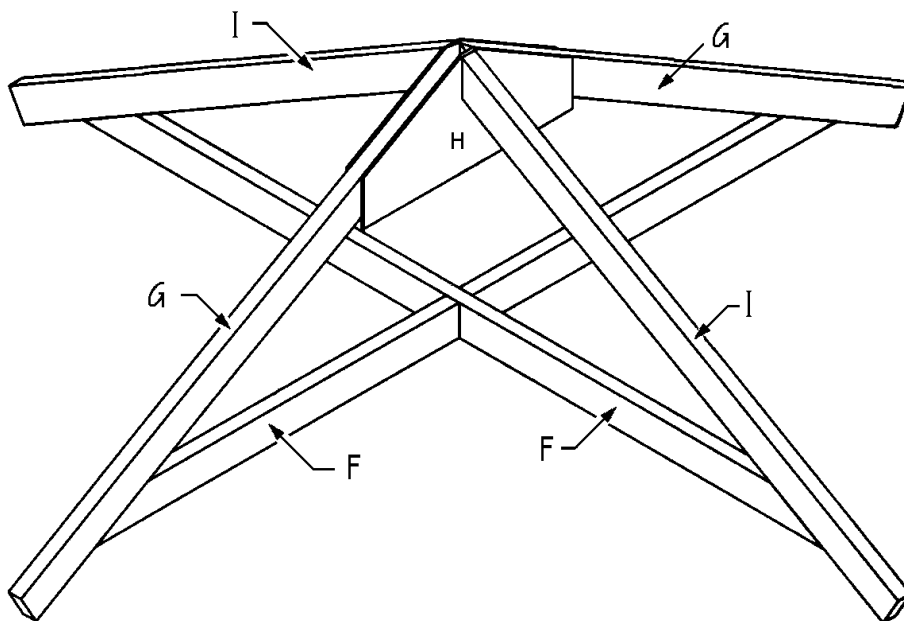

Figure 11
13. Install the Rafter Braces (I), mitered end against the Rafter Connector (H) and perpendicular to the Roof Rafters (G), as shown in *Figure 11*. Screw through the Rafter Braces (I) and the Rafter Connector (H) and into the Roof Rafters (G), using two 3-1/2" wood screws. Attach the other end of the Rafter Braces (I) to the free ends of the Roof Supports (F). Screw